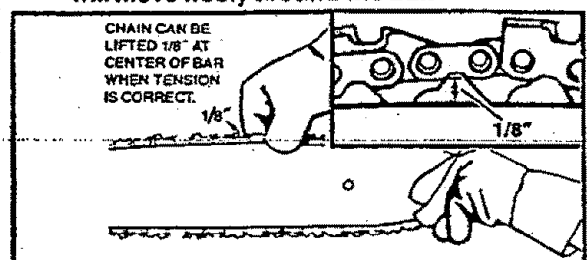

Figure 11
2. Check the tension by lifting the chain from the guide bar at the center of the bar. Figure 11.
5. Recheck tension. See Figure 11.